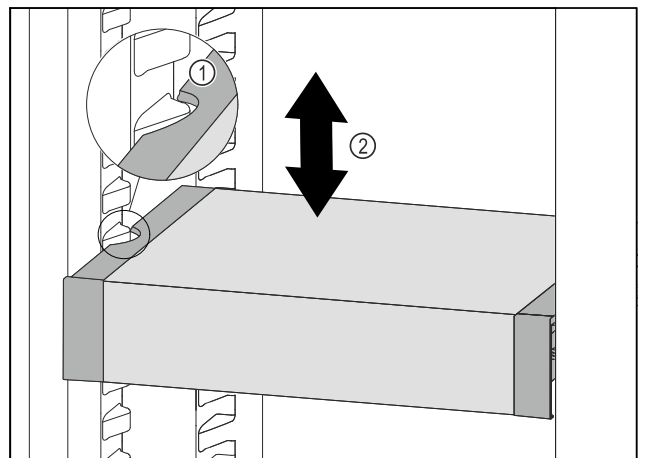

Fig. 105
- Pull VarioSafe forwards until the recesses in the side of the VarioSafe are at the level of the support rib in the refrigerator compartment. Fig. 105 (1)
- ▶ Move VarioSafe up or down in the refrigerator compartment until the desired height is reached. *Fig. 105 (2)*